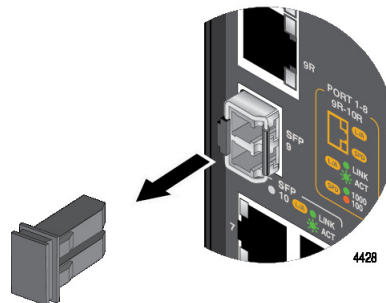

Figure 30. Remove Dust Cover from SFP Transceiver
4. Remove the dust cover from the transceiver. Refer to Figure 30.